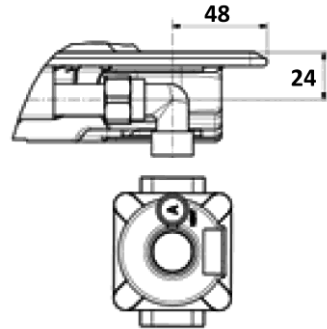
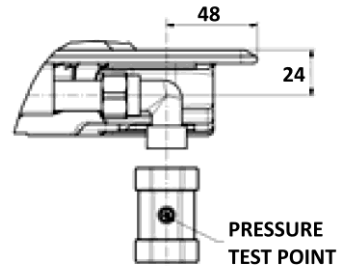

Fig. 2
Fig. 3
- For gas inlet position of appliance refer to figure 2 for NG and figure 3 for ULPG.